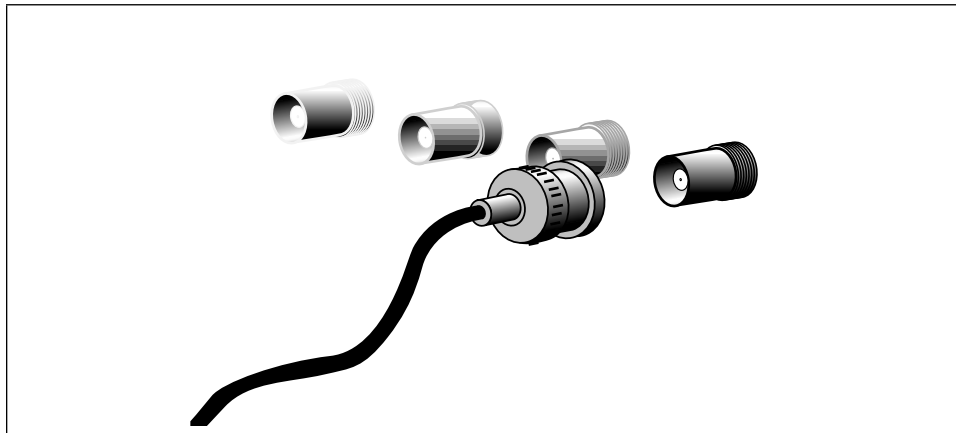

Figure 4: BNC Connector
**BNC Connections, 10BASE2.** A thin Ethernet coaxial cable may be plugged directly into the BNC port located on the back panel. See Figure 4. Next to each of these ports is the 50  $\Omega$  termination switch. If the coax is plugged directly without a BNC-T or external terminator then the terminator switch for the respective port must be enabled by selecting the ON position. Each BNC is switched individually.